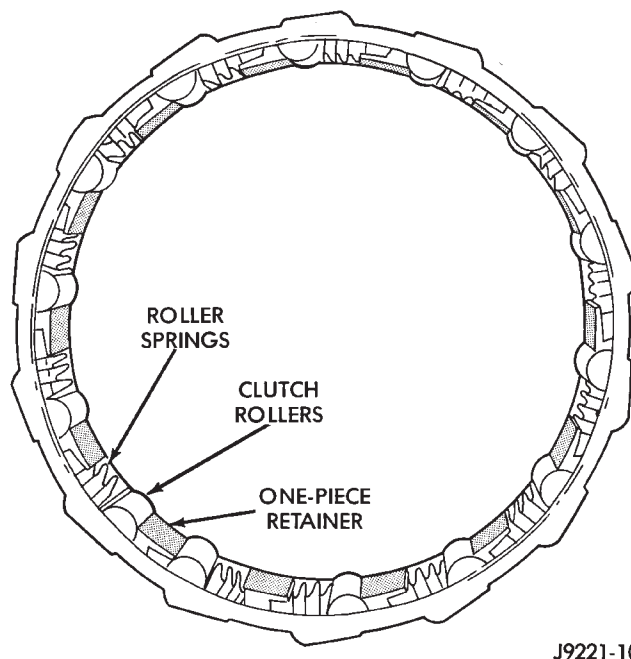

Fig. 46 Clutch Roller, Spring And Retainer Assembly—46RH
(1) Lubricate overdrive piston retainer hub, clutch race, clutch cam, and overrunning clutch rollers with transmission fluid.
(2) If any overrunning clutch rollers or springs came out of retainer, reinstall them as follows: Install and seat spring in retainer first. Then insert roller between spring and retainer stop as shown (Fig. 46). Verify that each roller and spring are fully seated before proceeding.